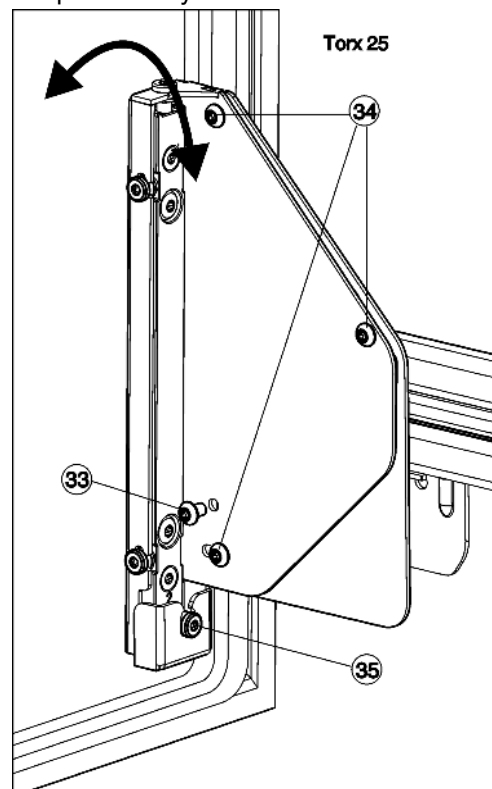

Fig. 30
- ▶ Fully unscrew the screws Fig. 30 (33).
- ▷ Dispose of the screws *Fig. 30 (33)* as they will no longer be needed.
- ▶ Only loosen the screws *Fig. 30 (34)* with 1 to 2 turns.
- ▶ Turn the adjusting screw *Fig. 30 (35)*. In a clockwise direction: the top of the door tilts away from the appliance body. In an anticlockwise direction: the top of the door tilts towards the appliance and the bottom tilts away from the appliance body.
- ▶ After adjusting the inclination, retighten all screws *Fig. 30 (34)*.